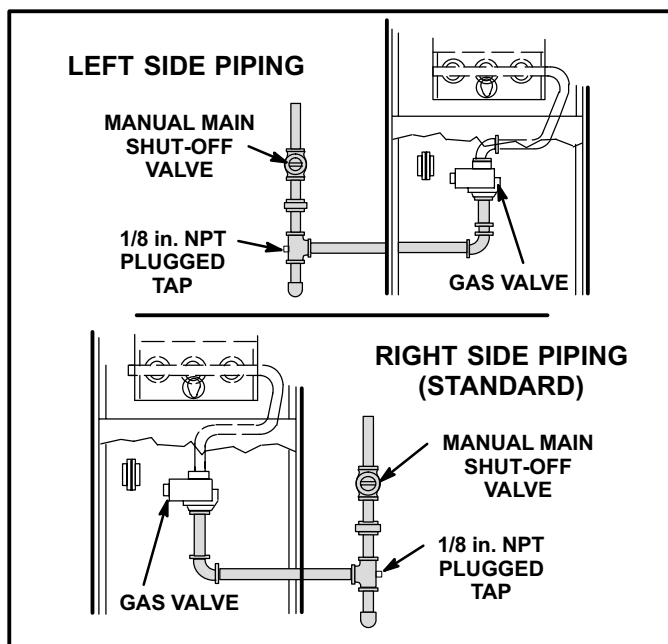

FIGURE 23
- 1 - Gas piping may be routed into the unit through either the left- or right-hand side. Supply piping enters into the gas valve from the bottom of the valve as shown in figure 23.
- 3 - The gas piping must not run in or through air ducts, clothes chutes, gas vents or chimneys, dumb waiters or elevator shafts. Center gas line through piping hole. Gas line should not touch side of unit. When left-hand gas plumbing is required, gas line should be installed in the lower half of knockout so that piping will clear combustion air blower. See figure 23.